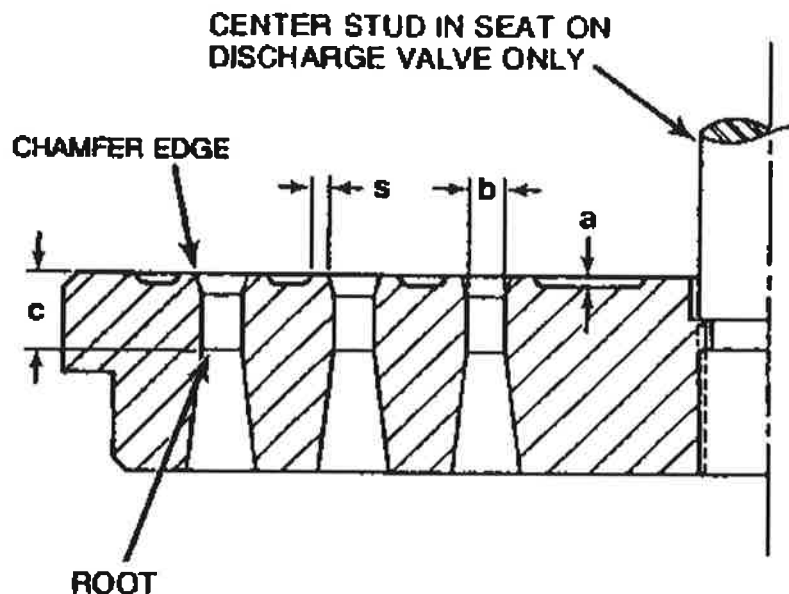

Figure 4-30. Valve Seat Rework Dimensions
On discharge valves, the center stud is screwed into the valve seat. Around the center stud shank, there is a recess in the seat (see Figure 4-30) which is approximately 0.080 inch (2 mm) larger in diameter than the shank diameter. This recess permits machining of the valve seat without removing the center stud. In some machining methods, it may be necessary to remove the center stud.
*A valve seat can be machined as indicated below without affecting the valve's performance (see Figure 4-30):*